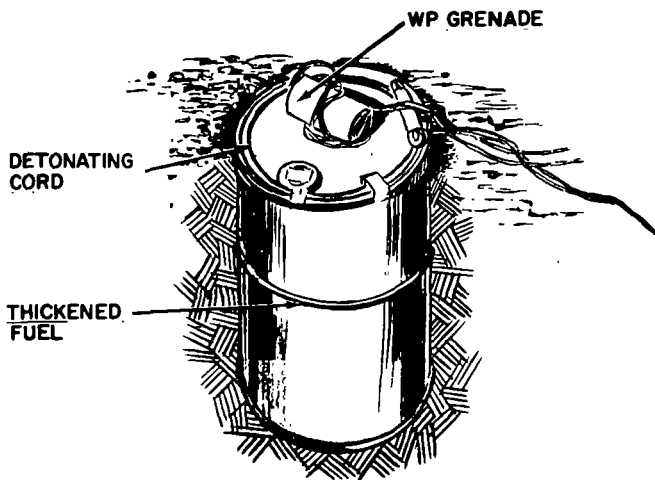

Figure 126. Flame illuminator.
- (1) A 5- to 55-gallon drum filled with thickened fuel, tightly sealed, and set in a hole so that the top is slightly below ground (fig. 126). Coils of detonating cord are wrapped around the inside edge of the top of the drum. The coil is tightly tamped with earth. When detonated, the cord cuts off the top of the